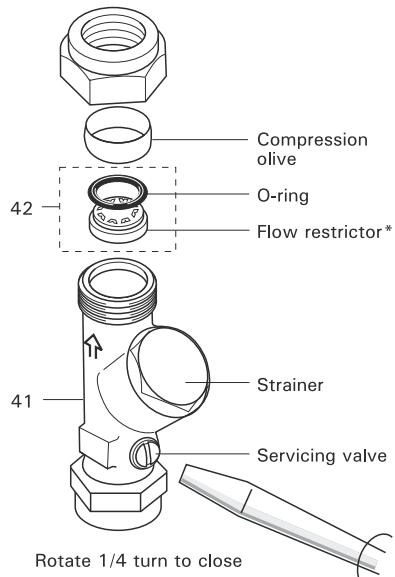

Figure 2
Approval only applies when the valves are installed without the flow restrictors illustrated in Figure 2.
When installing on a modulating combination boiler it is sometimes possible for the interaction of a thermostatic valve with the combi to cause the boiler to cut out and cut in again with the result that the water will become alternatively cold and hot. To overcome this it is necessary to fit the flow restrictors* supplied upstream of the CTV. When installing on a combi boiler system these should be inserted in the downstream side of the servicing valve as shown on Figure 2. It is essential that these are positioned the right way round as shown in the sketch. Remove the compression nut and olive from the outlet side of the Isolating valve and place the restrictor in the outlet.
2. Turn the servicing valve to the off position, Figure 2.